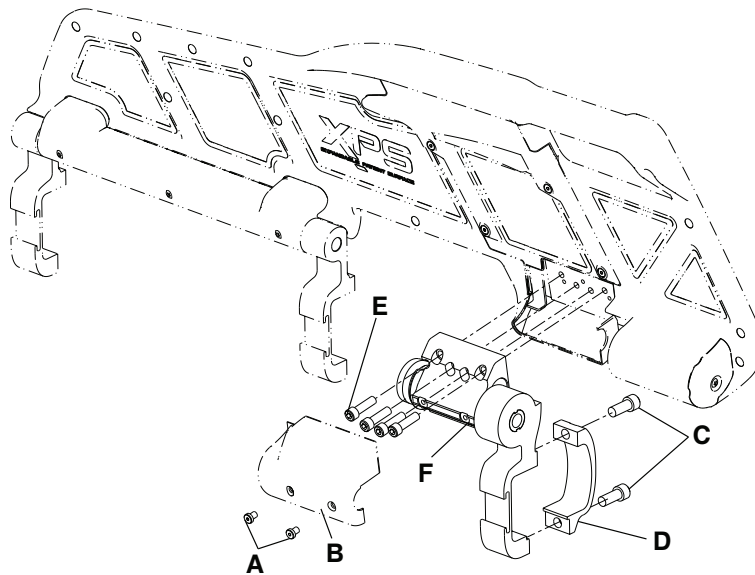

Figure 17 – Ratchet assembly replacement (XPS)
3. Using a 3/32" hex wrench, remove the two screws (A) that secure the ratchet cover (B) to the ratchet assembly (Figure 17). Remove and save the ratchet cover. Save the screws.
4. Using a 1/4" hex wrench, remove the socket head cap screws (C) that secure the siderail clamp (D) to the ratchet assembly at the foot end of the main assembly (Figure 17). Save the screws.
5. Using a 3/16" hex wrench, remove the four screws (E) that secure the ratchet assembly (F) to the overmold assembly (Figure 17). Remove and discard the ratchet assembly. Save the screws.